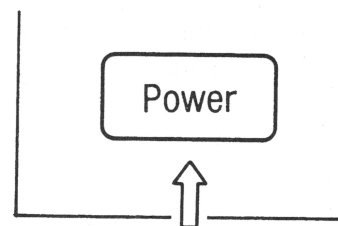

Figure 6. **Power** Key.
1. Press **Power** (Figure 6). This starts all oven functions. Temperature display shows current set-temperature.
1. Press **[Power]** (Figure 6). This starts all oven functions. Temperature display shows current temperature.
Oven will continue to operate at set-temperature until you press **[Power]** (Figure 6) and turn it off.